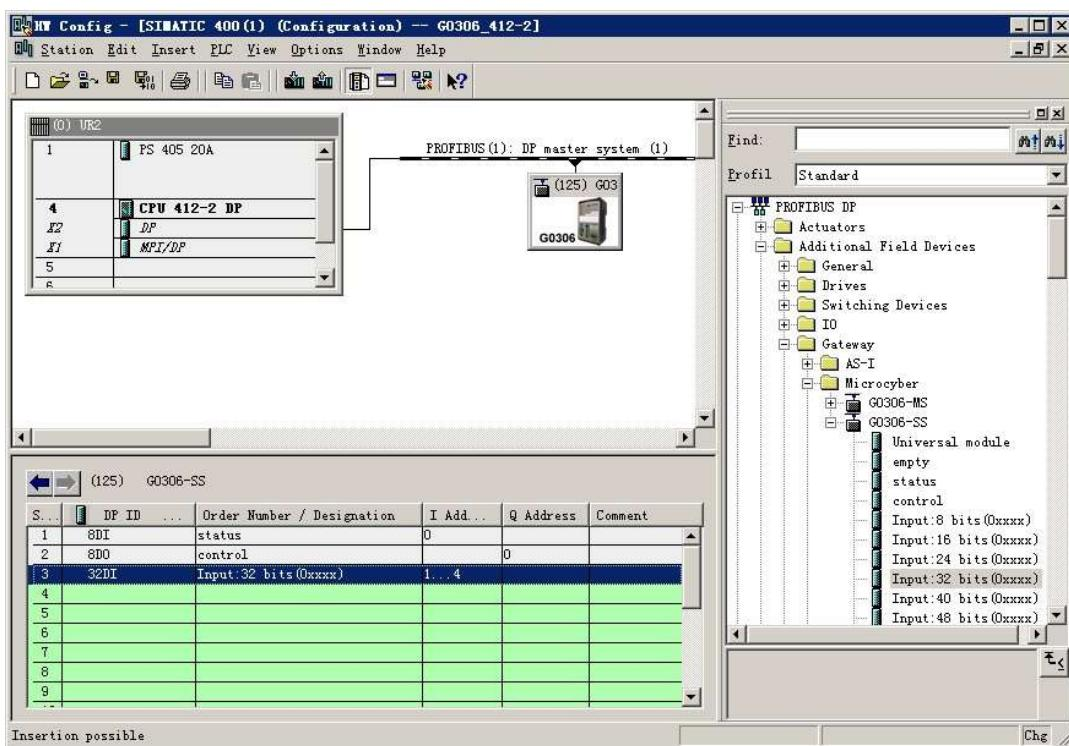

Figure 42 Add“Input:32 bits(0xxxx)”module
a) Add the "Input: 32 bits(0xxxx)" module, as shown in Figure 42: